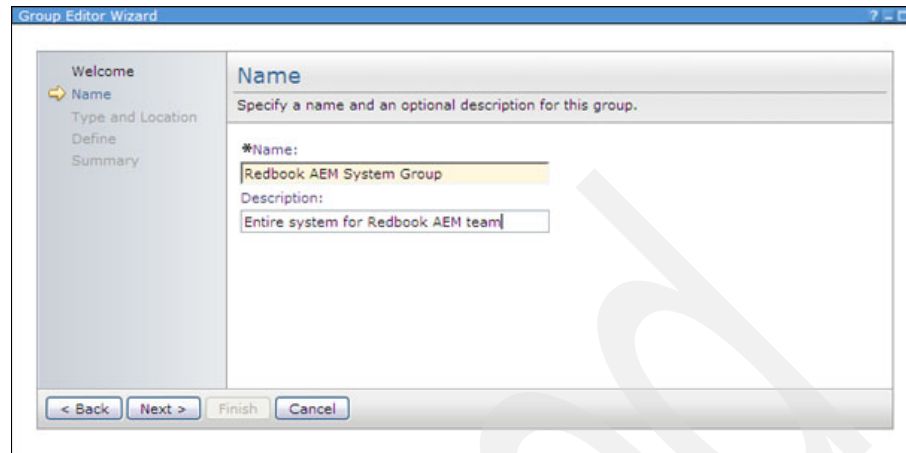

Figure 4-21 Entering a name and description for a group
2. In the Group Editor wizard, the Welcome page displays. Click **Next**. On the Name page, shown in Figure 4-21, enter a unique descriptive name for the group that you are creating. Optionally, you also can enter a description of the group. Click **Next**.